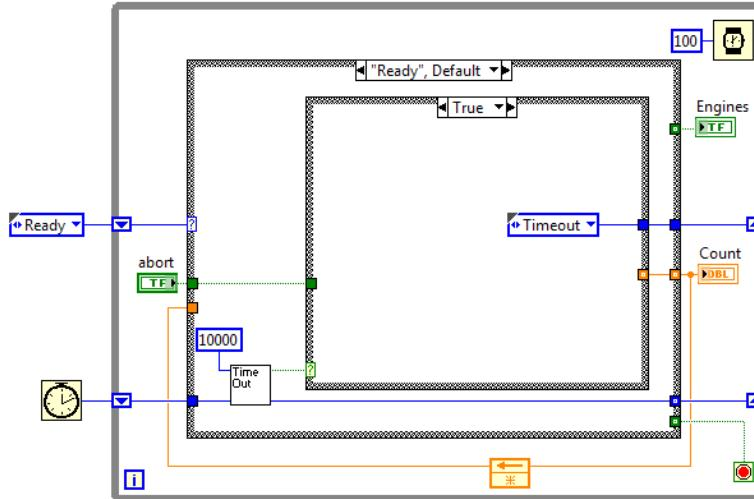

FIGURE E.12 The Ready state with a timeout test added.
3. Modify your Ready state to match Fig. E.12. There is a new case structure that encloses the one that reads the Abort button. I'm showing the other case (which you should make sure is the True case!). The False case contains the code you wrote before. Note the use of the **Use Default If Unwired** tunnel on the way out of the case structure.